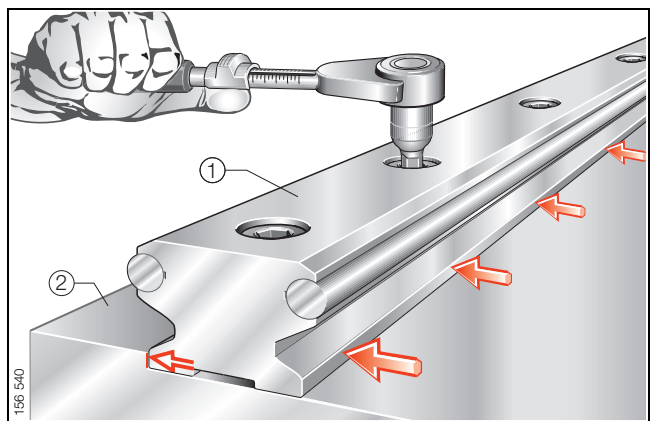

Figure 4 · Fitting the guideway
- Place the guideway ① on the adjacent construction ② and screw mount finger tight (Figure 4)
- Align the guideway – if necessary clamping it against a locating edge – and screw firmly into place (Figure 4)